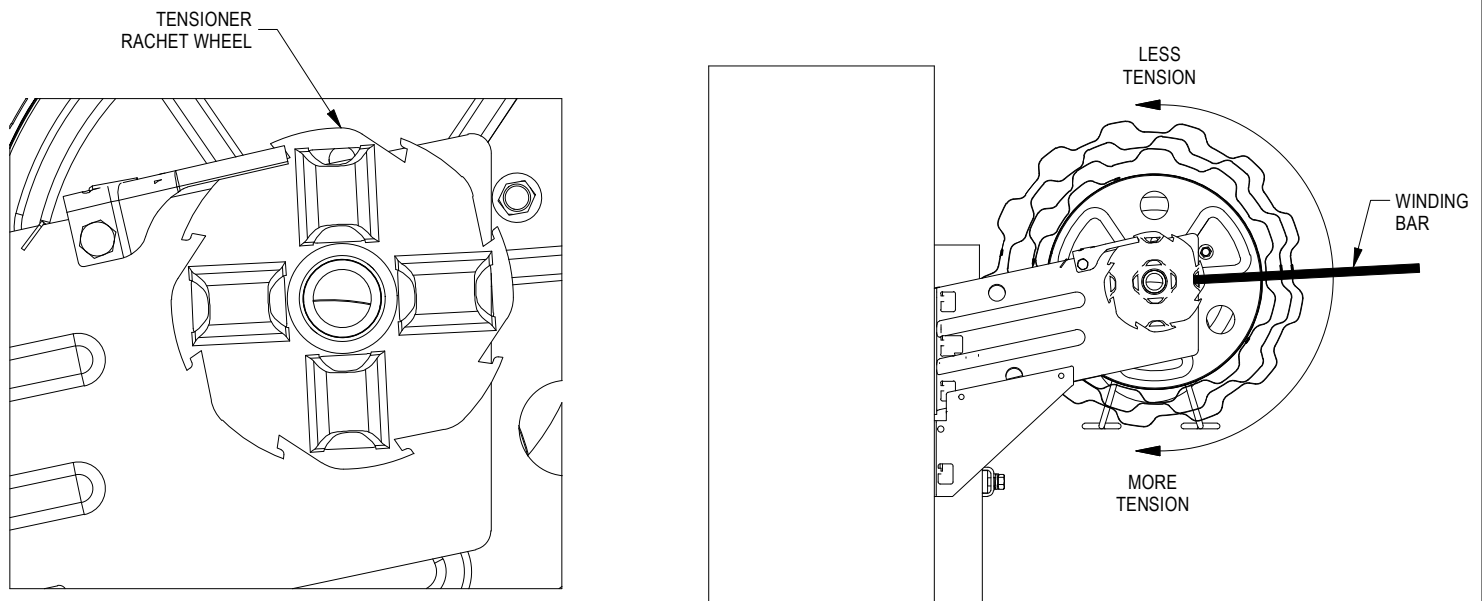

FIGURE 18:
- ▶ If door is easy to close but difficult to open, increase spring tension. **See Figure 18, on page 12.**
- ▶ If door is difficult to close but easy to open, decrease spring tension. **See Figure 18, on page 12.**
MANUAL ADJUSTMENTS OF SPRING TENSION MAY BE REQUIRED. ADJUSTMENTS ARE TO BE MADE USING A 3/8" DIAMETER WINDING BAR. WHEN MAKING ADJUSTMENTS, ENSURE TENSIONER PAWL IS FULLY ENGAGED WITH TENSIONER RACHET WHEEL TOOTH BEFORE REMOVING WINDING BAR FROM IT. **SEE FIGURE 18** FOR VISUAL REFERENCE.